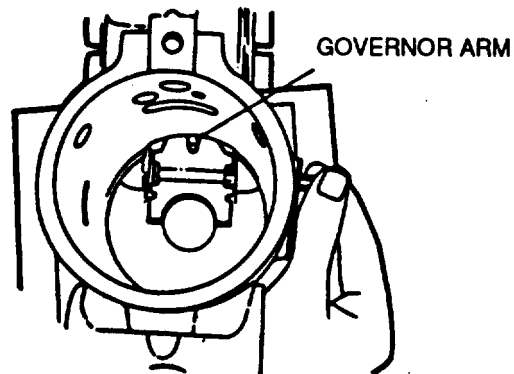

FIGURE 3-75. Installing Governor Arm
- (1) Apply a light coat of general purpose grease (630AA) to seals (40).
- (2) Install seals (40) on shaft (41).
**Do not invert drive shaft seals (40) when installing drive shaft (41). If resistance is felt, stop and inspect seal. If seal was forced back, stop and replace seal.**
**Before installing shaft (41), find small drilled hole (off-center) on drive shaft tang. There is a similar hole drilled in the distributor rotor. When installed, the drive shaft and distributor rotor holes must be aligned.**
- (3) Compress seals (40) and install drive shaft (41) in pump housing.
- (4) Slide thrust washer (39), aligned with flat, and then spring washer (38) onto drive shaft. Secure with retaining ring (37).
- ah. Place governor arm (44, FIGURE 3-45) into position in housing. Insert governor shaft (73) through hole in housing so knife edge mates with groove in governor arm, refer to FIGURE 3-75.